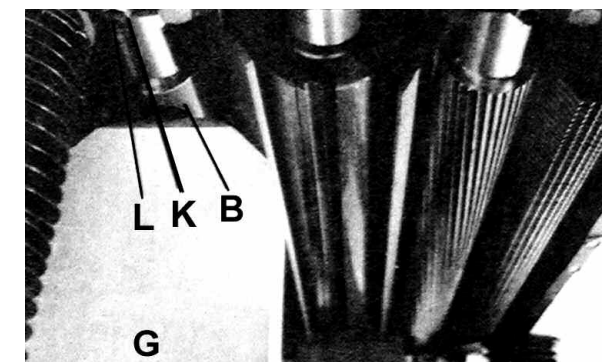

FIGURE 26
4. Move the gauge block (G) under one end of the outfeed roller (B) as shown in Fig.26. The bottom of the outfeed roller should just touch the top of the gauge block. If an adjustment to the outfeed roller is necessary, loosen the lock nut (K) Fig.26 and turn screw (L) until the outfeed roller just touches the gauge block. Retighten lock nut (K).